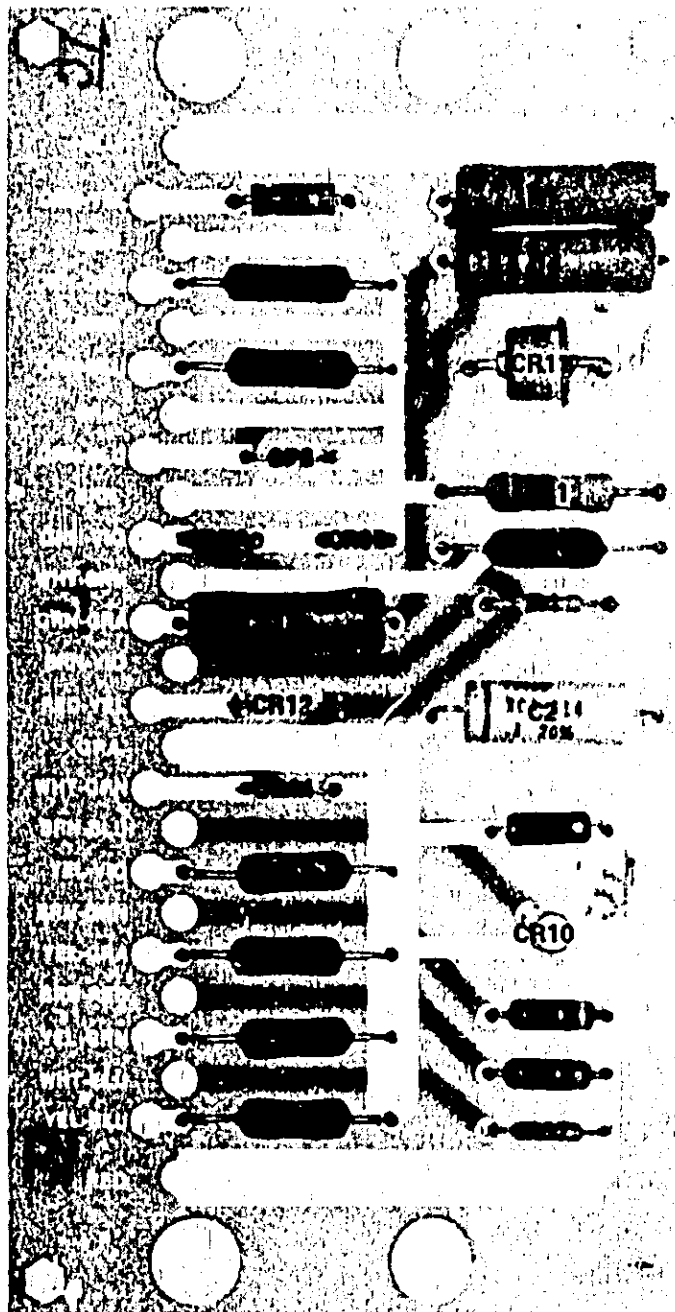

Figure 2.
- >Delete component locator and table of jumper colors and replace with Figure 2 of this change sheet.